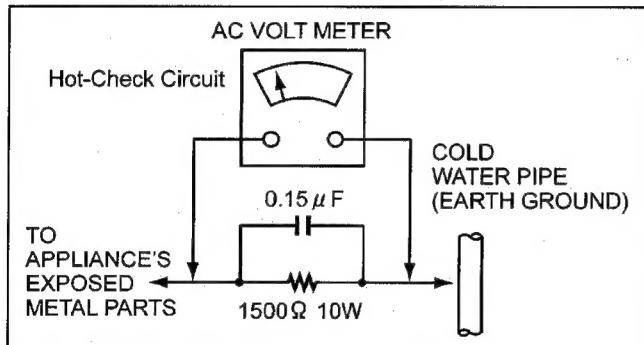

Figure1
## LEAKAGE CURRENT HOT CHECK (See Figure 1)
2. Connect a  $1.5\Omega$ , 10W resistor, in parallel with a  $0.15\mu F$  capacitor, between each exposed metallic part on the set and a good earth ground such as a water pipe, as shown in Figure1.